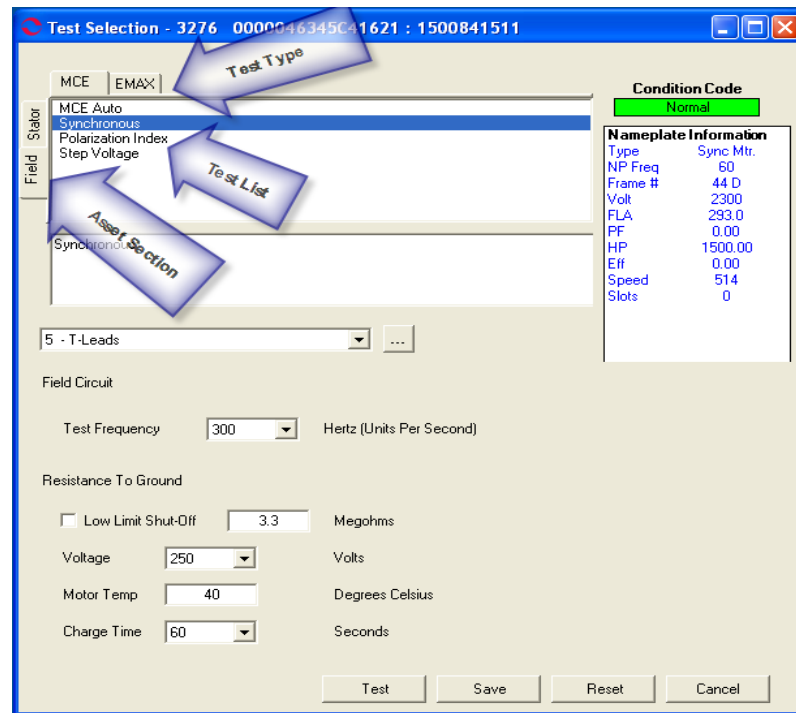

Figure 5-34: Test Selection Window
5. Select the Test Selection icon  on the toolbar. The Test Selection window opens, Figure 5-34.